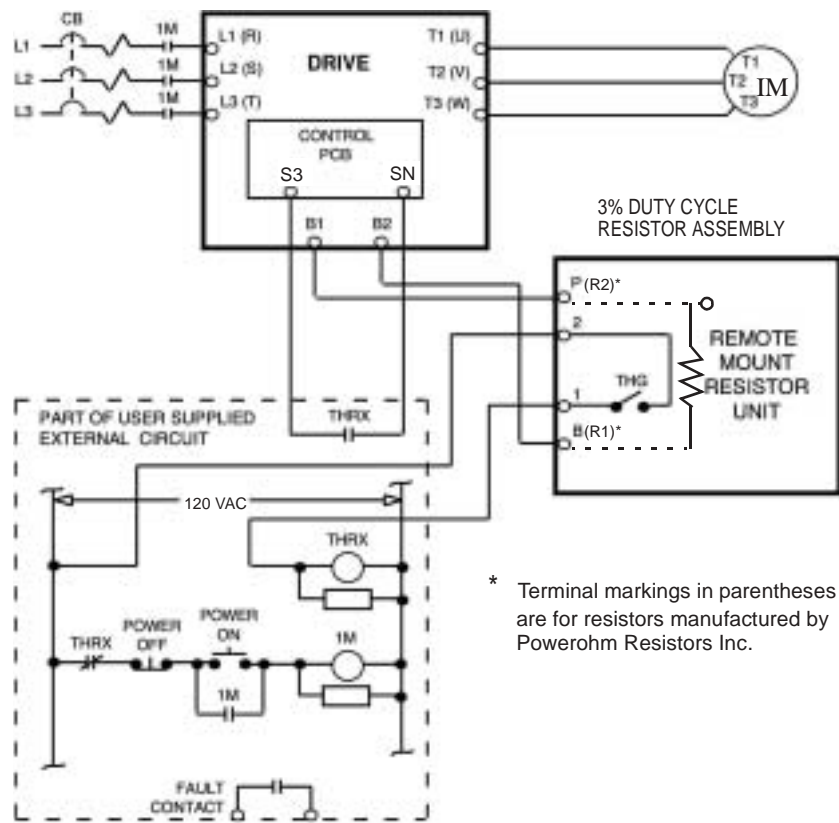

Fig 2.6 Wiring Remote Mount Resistor Unit (for P7U20P4 thru P7U2018 and P7U40P4 thru P7U4018)
- 2. Remove the Remote Mount Resistor Unit cover to access its terminal block. Connect the Remote Mount Resistor Unit to the Drive and to external control circuitry according to Fig 2.6 below.